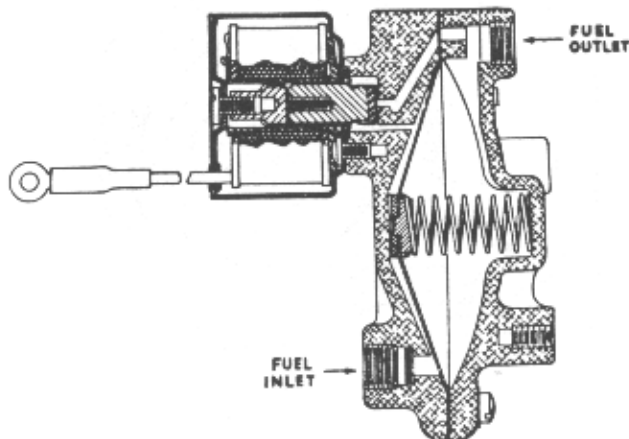

Figure 17—Safety Valve (Sectional View)
1. The safety valve (Figure 17) consists of a shut-off solenoid and a casting, which houses a large diaphragm and spring. The safety valve provides just the initial flow of fuel for ignition. Additional fuel to sustain combustion is received only after the shut-off solenoid of the safety valve is energized when the ventilating air blower comes on.
1. When the heater switch is snapped ON, fuel enters the safety valve (Figure 17) at the inlet port and exerts a pressure against the diaphragm. This pressure overcomes the spring tension against the diaphragm, causing it to move and force the gasoline in the chamber through the outlet port to the fuel control valve. This chamber holds only sufficient fuel to allow ignition to take place within the heater. After ignition occurs, the flame detector switch energizes the safety valve shut-off solenoid and this provides additional fuel to sustain combustion. When the shut-off solenoid opens, fuel also enters the chamber and equalizes